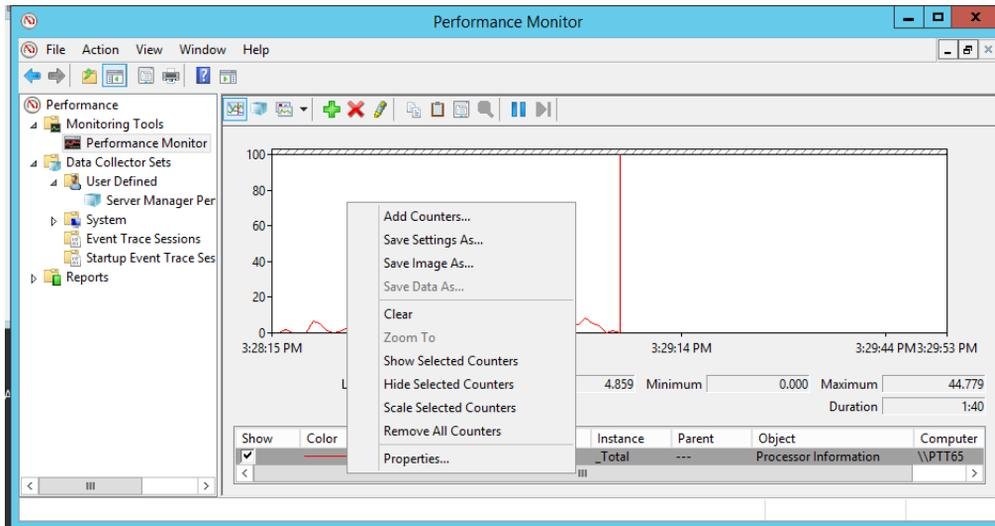

Figure 80. Add or Delete Counters from the Performance Monitor
2. Add/Delete counters from the Performance Monitor as required, Figure 80.